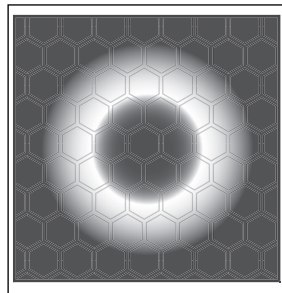

Fig 10b
red LED flashes if the centre of the beam falls in the area shown as a light ring in **Fig 10b**. The nearer the centre the quicker the flash rate.
2. Pan and tilt the beam detector, by turning the thumbwheels, until the centre of the beam hits the part of the reflector shown in *Fig 10b*, causing the red LED to flash. It does not matter which way you move the detector. If moving in one direction does not cause the red LED to flash, move the other way.